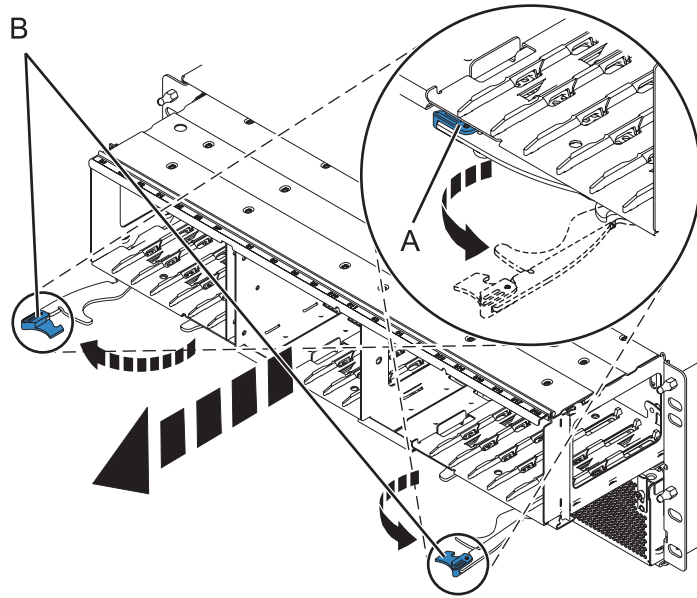

Figure 76. Removing the backplane from the enclosure
6. Remove the backplane as shown in Figure 76 on page 84.